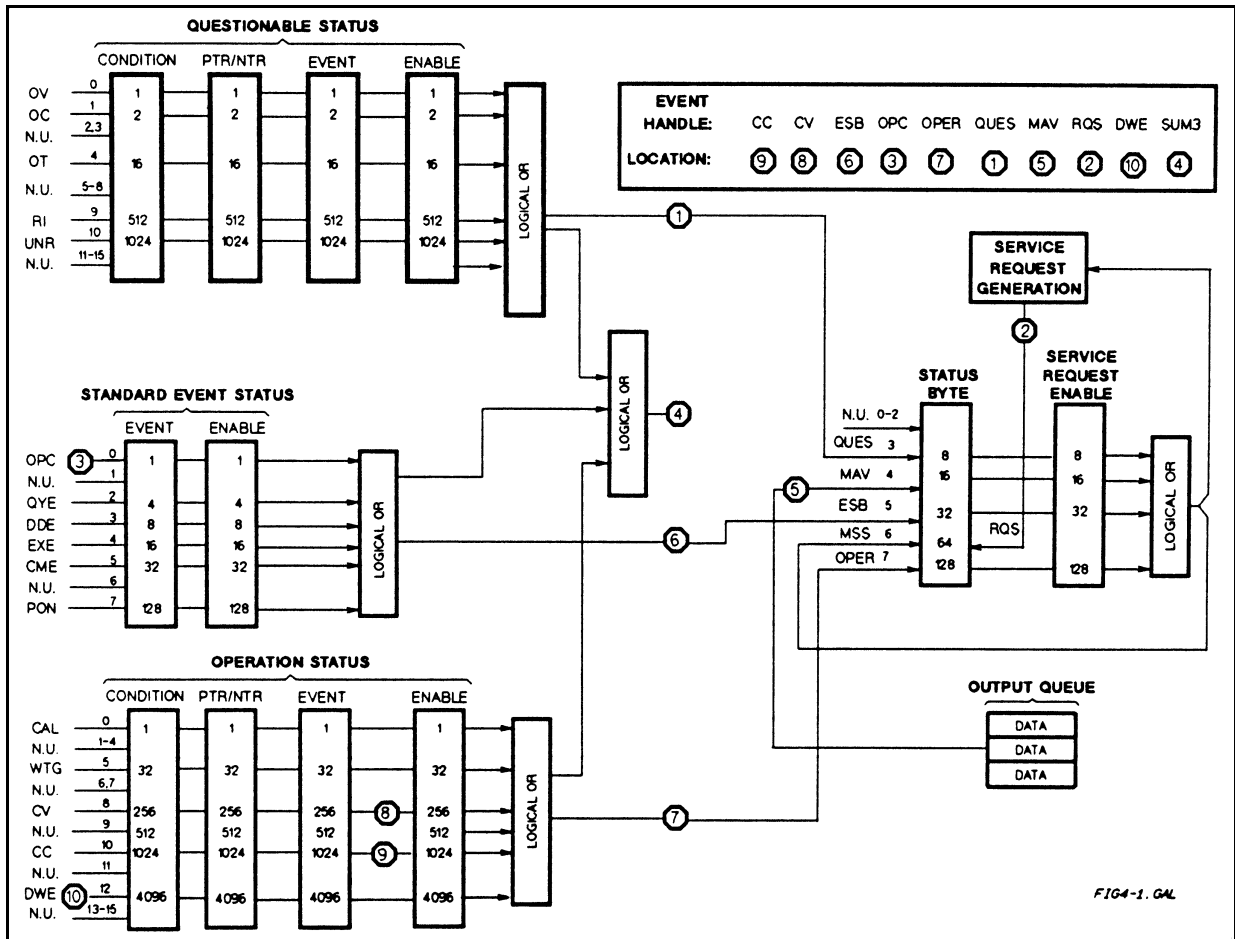

Figure 4-1. Power Module Status Model
Figure 4-1 shows the status register structure of the power module. The Standard Event, Status Byte, and Service Request Enable registers and the Output Queue perform standard HP-IB functions as defined in the *IEEE 488.2 Standard Digital Interface for Programmable Instrumentation*. The Operation Status and Questionable Status registers implement status functions specific to the power module.
Table 4-2 and Figure 4-1 show the bit configuration of each status register.
The Questionable Status registers record signals that indicate abnormal operation of the power module. As shown in Figure 4-1, the group consists of the same type of registers as the Status Operation group. The outputs of the Questionable Status group are logically-ORed into the QUES(tionable) summary bit (3) of the Status Byte register.
"Event handles" are signals within the interface that can be used for triggers, for a Trigger Out signal, or for a DFI signal. Those event handles derived from signals in the Status Subsystem are shown as circled numbers in Figure 4-1. Other event handles are described in "Chapter 5 - Synchronizing Power Module Output Changes".
This example assumes you want a service request generated whenever the power module switches to the CC (constant current) mode. From Figure 4-1, note that the required path is for a condition at bit 10 (CC) of the Operation Status register to set bit 6 (RQS) of the Status Byte register. The required register programming is as follows: